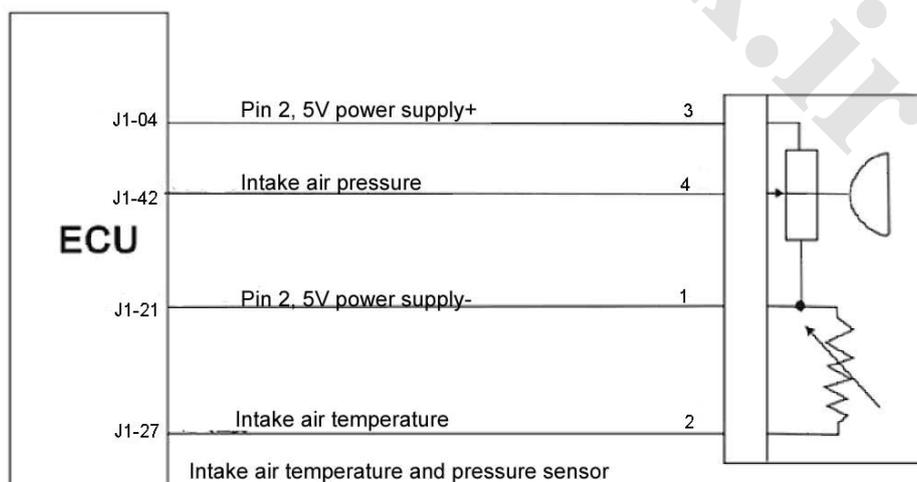

Fig. 1-2
(1) Function: Measure the absolute pressure of the 0.1~0.2bar intake manifold and the temperature of the intake air flow, and provide load information for the engine.
(2) Structure and principle: The sensor consists of intake manifold absolute pressure sensor and intake air temperature sensor, which is installed on the pressurizer tank.
(3) Intake air pressure sensor: made by a silicon chip. There is a pressure diaphragm on the silicon chip and are 4 piezoelectric resistances on the diaphragm. The 4 piezoelectric resistances build up a wheatstone bridge. Besides the pressure diaphragm, there is also a signal process circuit on the chip. The silicon chip and a metal housing build up a closed referential space, in which the absolute pressure of the air is approximately zero. Then, a microelectronic mechanical system is established. There is a zero pressure on the active side of the silicon chip and an absolute pressure of the intake manifold on the back side of the chip. The thickness of the silicon chip is only several microns (μm), and the form of the chip will be mechanically changed with the change of the absolute pressure of the intake manifold. Then, the 4 piezoelectric resistances and their resistance values will be also changed. After treated by the signal process circuit on the chip, the pressure signal, which is linearly related to pressure, will be formed.
(4) Intake air temperature sensor: Made by a resistance with negative temperature coefficient (NTC). Similar to water temperature sensor, the resistance value will decrease with the increase of the intake air temperature. The change of the intake air temperature will be supervised and measured by a comparative electric circuit within the ECU.
(5) Connection of wiring diagram (Fig. 1-2)